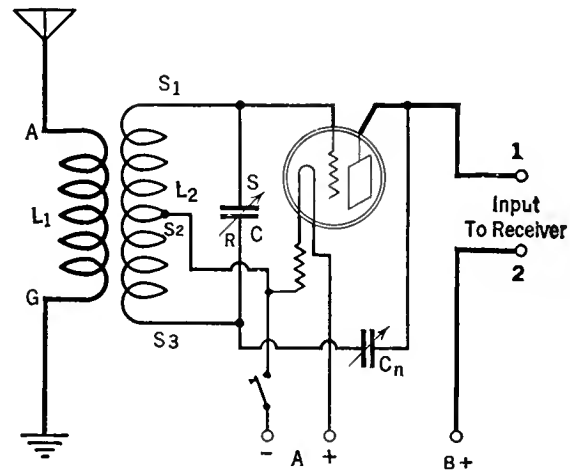
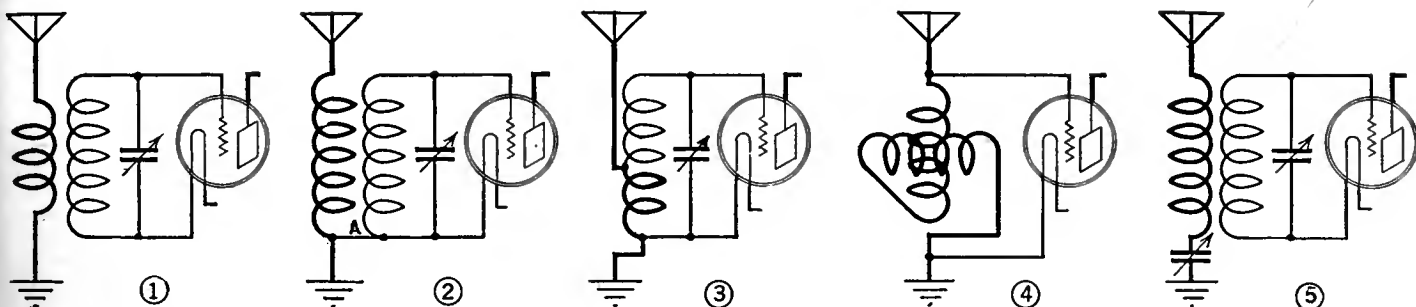
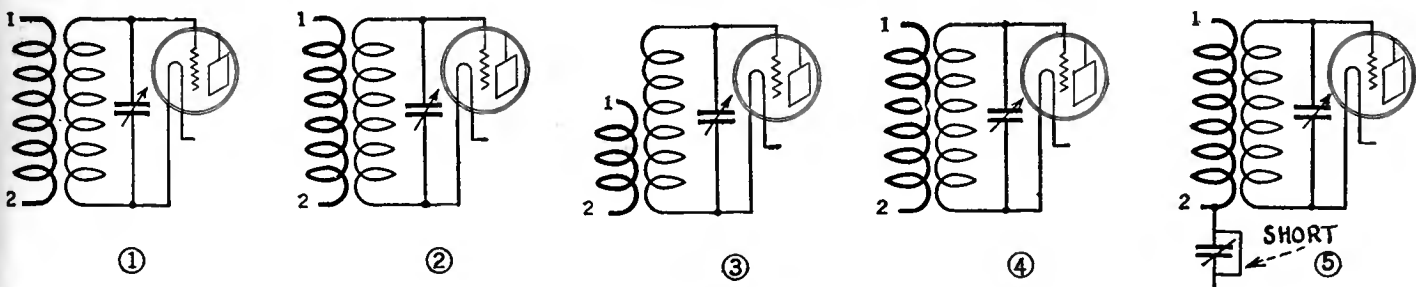

FIG. 7
FIG. 8
FIG. 11
The major reason for using the General Radio instrument in taking the data contained in this article was that it uses a calibrated condenser, which was essential in making these measurements. After the tests with the General Radio and other wave traps mentioned above, a home made trap was tried and results were quite satisfactory in every way. A home made unit, very easy to build, is illustrated in Fig. 8.
A home-made radio-frequency unit adapted for use in this connection is shown in Fig. 7. This design proved to be excellent from the standpoint of adaptability to existing receivers with a minimum number of changes. The completed unit is shown in Figs. 8 and 9. It was constructed in the Laboratory.
One of the diagrams in this Figure is the type of antenna connection used in your receiver. The diagram Fig. 11 shows the adaptation necessary to include an r. f. amplifier-wave trap.
The antenna system of a receiver is usually connected by one of the methods illustrated in Fig. 8. In Fig. 11, we have revised these circuits so as to indicate what changes are necessary in order to attach the radio frequency amplifier. Readers should determine what type of antenna circuit is used in their receiver and then locate it in Fig. 8. The numeral preceding the notes given below refers to Fig. 8 so that the notes concerned with any of the circuits can readily be found.
Apparatus layout of the radio-frequency amplifier Refer to Fig. 7 for the schematic diagram of this unit
(4) Practically the only method of adapting the circuit to the amplifier is by removing the variometer and substituting in its place a coil of the same type as in the former circuits. Revised, it appears as in No. 4 Fig. 11.
(5) This circuit is very easily changed over. Connect terminal No. 1 to the antenna terminal on the receiver. Terminal No. 2 should connect to the other end of the antenna coil. An optional method is illustrated in Fig. 11 where the antenna tuning condenser C has been shunted and connection made directly to the ground terminal.
Another photograph of the amplifier illustrated in Fig. 8